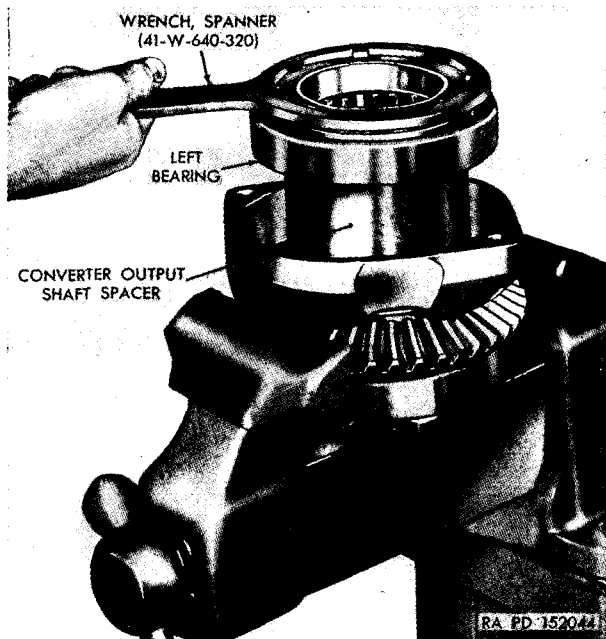

Figure 305. Removing converter-output-shaft lock nut.
- (1) Inspect the converter-output shaft and driving-bevel gear assembly (fig. 279). If inspection indicates that disassembly is necessary, bend down the tabs of the lock washer using a small punch. Using spanner wrench (41-W-640-320), remove the converter-output-shaft lock nut (fig. 305). Remove the tabbed washer.